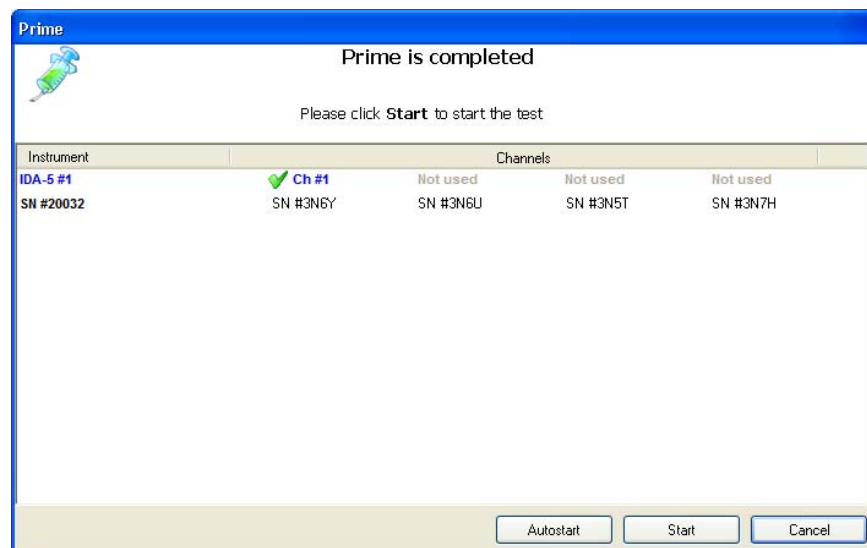

Figure 3-29. Toolbar AutoStart Feature
2. Click the **Autostart** or **Start** button as shown in Figure 3-29 and start the infusion device.